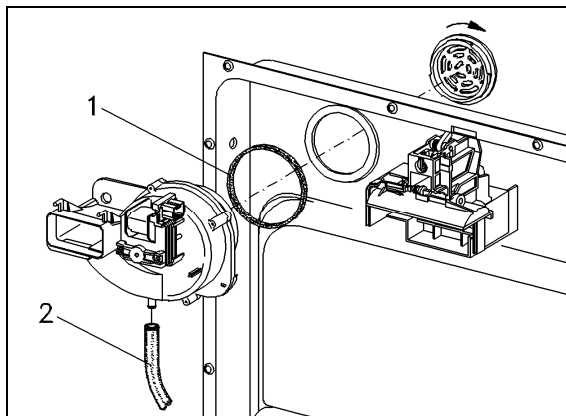

Figure 5-12: Turbothermic Fan Removal
4. Disconnect the connection plugs and the hose connection to the combination dispenser (Figure 5-12, Item 2).